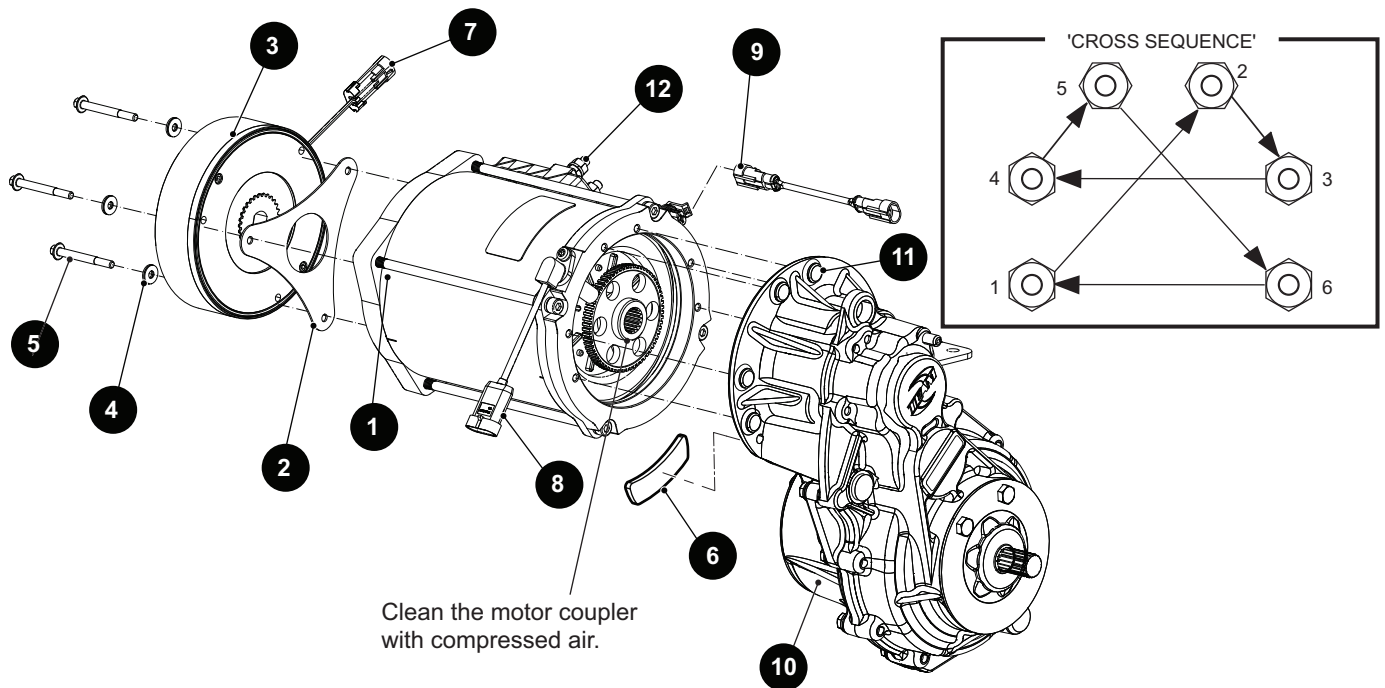

Fig. 4 Front Motor Components
3. Disconnect the motor wires from terminals U, V, and W (12) (Ref. Fig. 4) (Ref. Fig. 5).
4. Remove the connectors at the speed sensor (8), temperature sensor (9), and motor brake (7) (Ref. Fig. 4).
5. Remove the six bolts (11) that secure the motor (1) to the axle housing (10).
7. Remove the bolts (5), washers (4), motor brake (3) and motor cover gasket (2) from the motor (1).
8. Keep the motor brake (3) and gasket (2) to be used in assembly, or replace them if they are damaged.
3. Place the differential gasket (6), in the groove provided in the differential (10). Finger tighten the bolts (11) in a 'cross sequence' (Ref. Fig. 4), then tighten to 25 in. lbs. (2.82 Nm) increments of torque using the same 'cross sequence' pattern.
4. Reconnect the temperature sensor (9), speed sensor (8), and motor brake (7) wiring harnesses.
5. Reconnect the U, V, and W terminals (12) (Ref. Fig. 4) (Ref. Fig. 5).